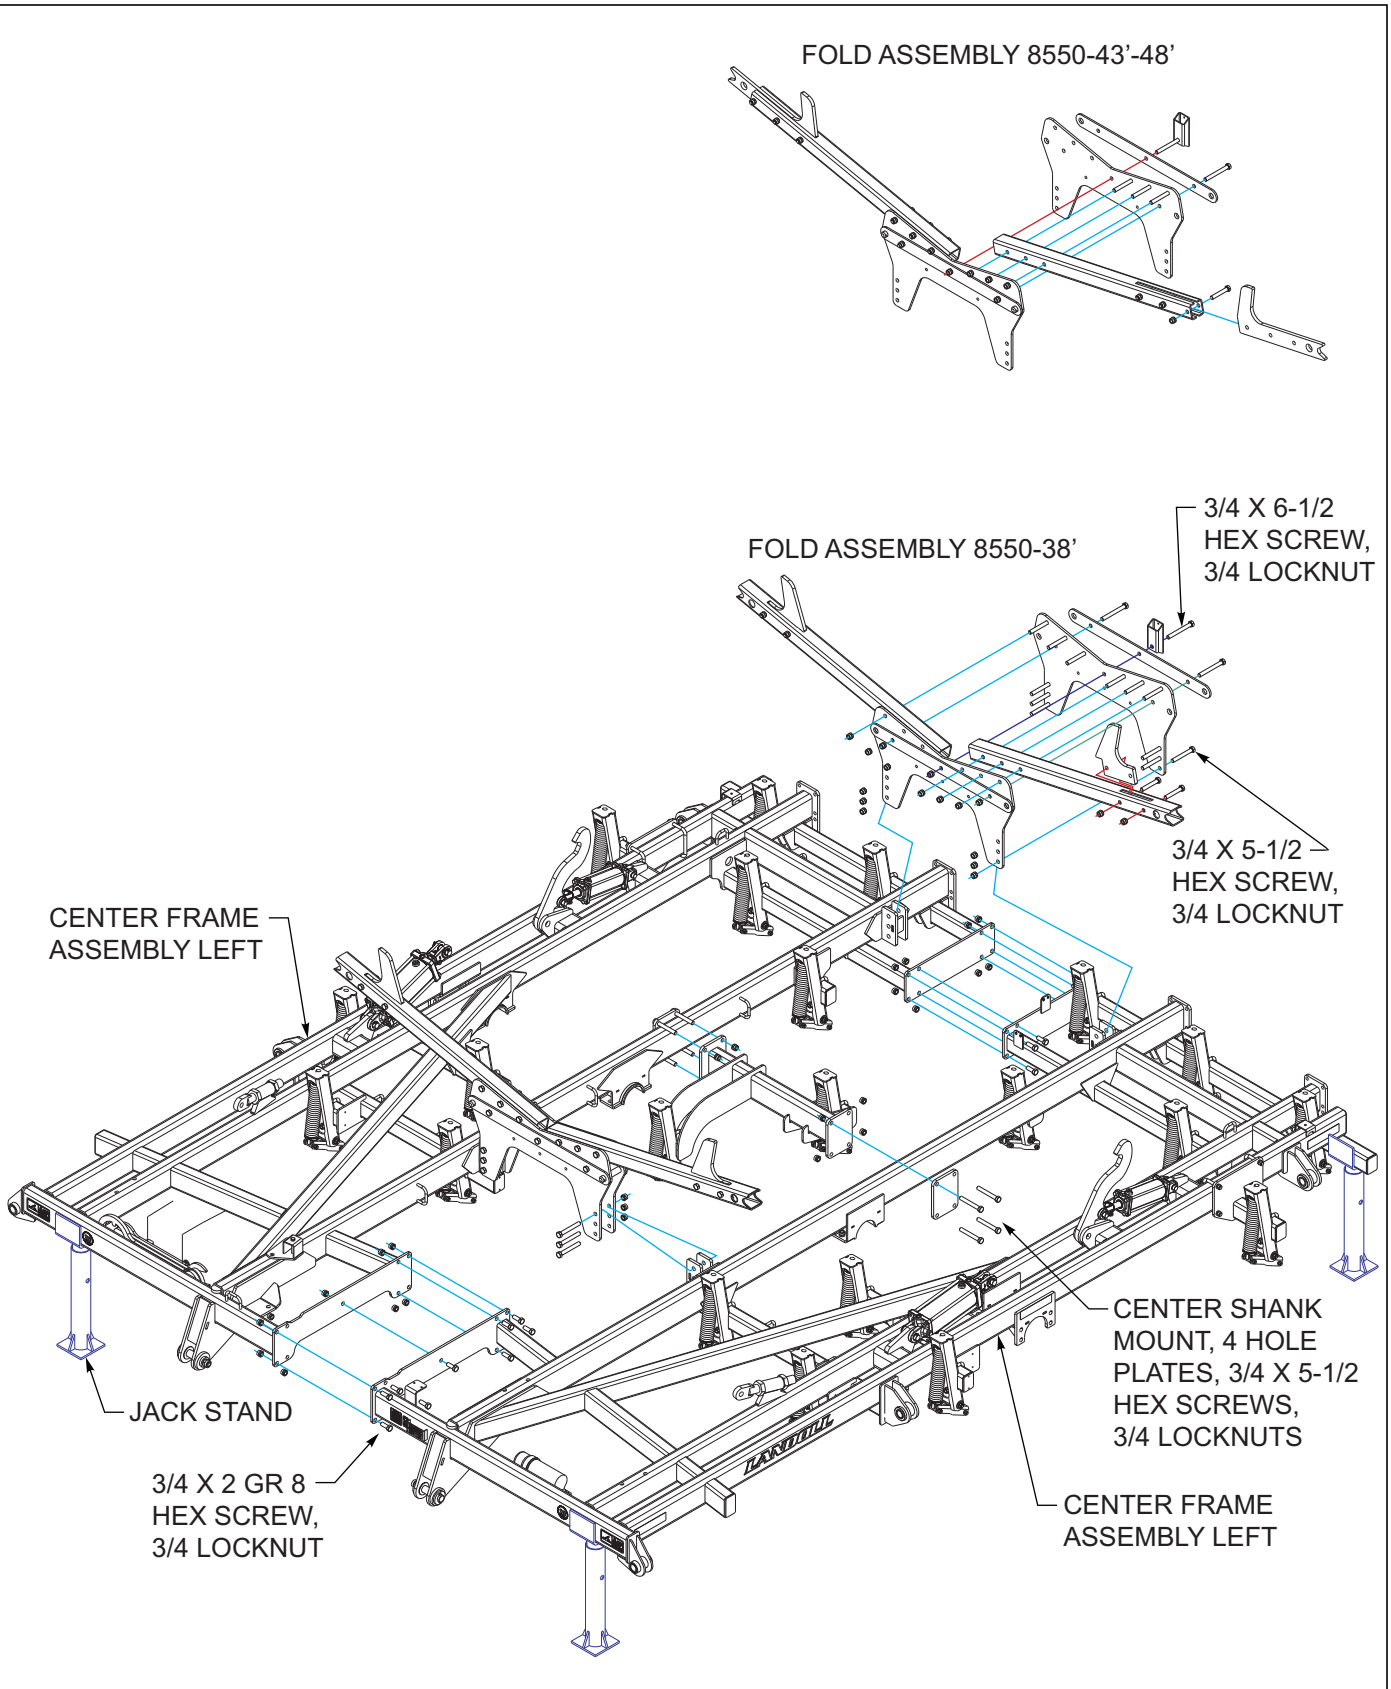

Figure 3-2: Center Frame Assembly
1. Place the center frame assembly on stands approximately 36" high (See Figures 3-2.) The assembly area should be a large level area of sufficient size to accommodate the finishroll when fully assembled.